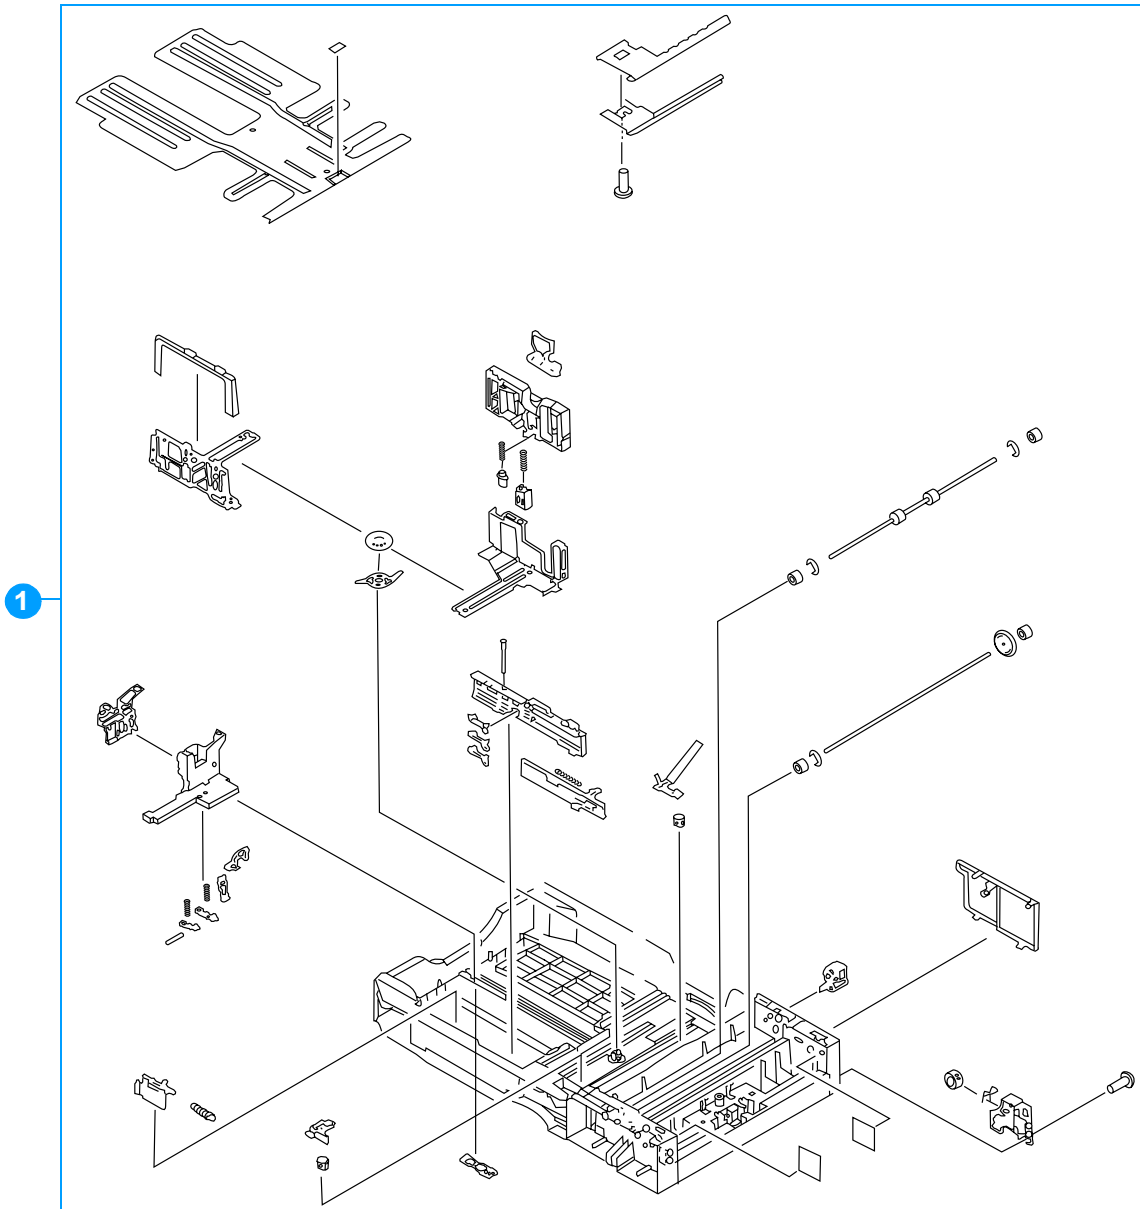
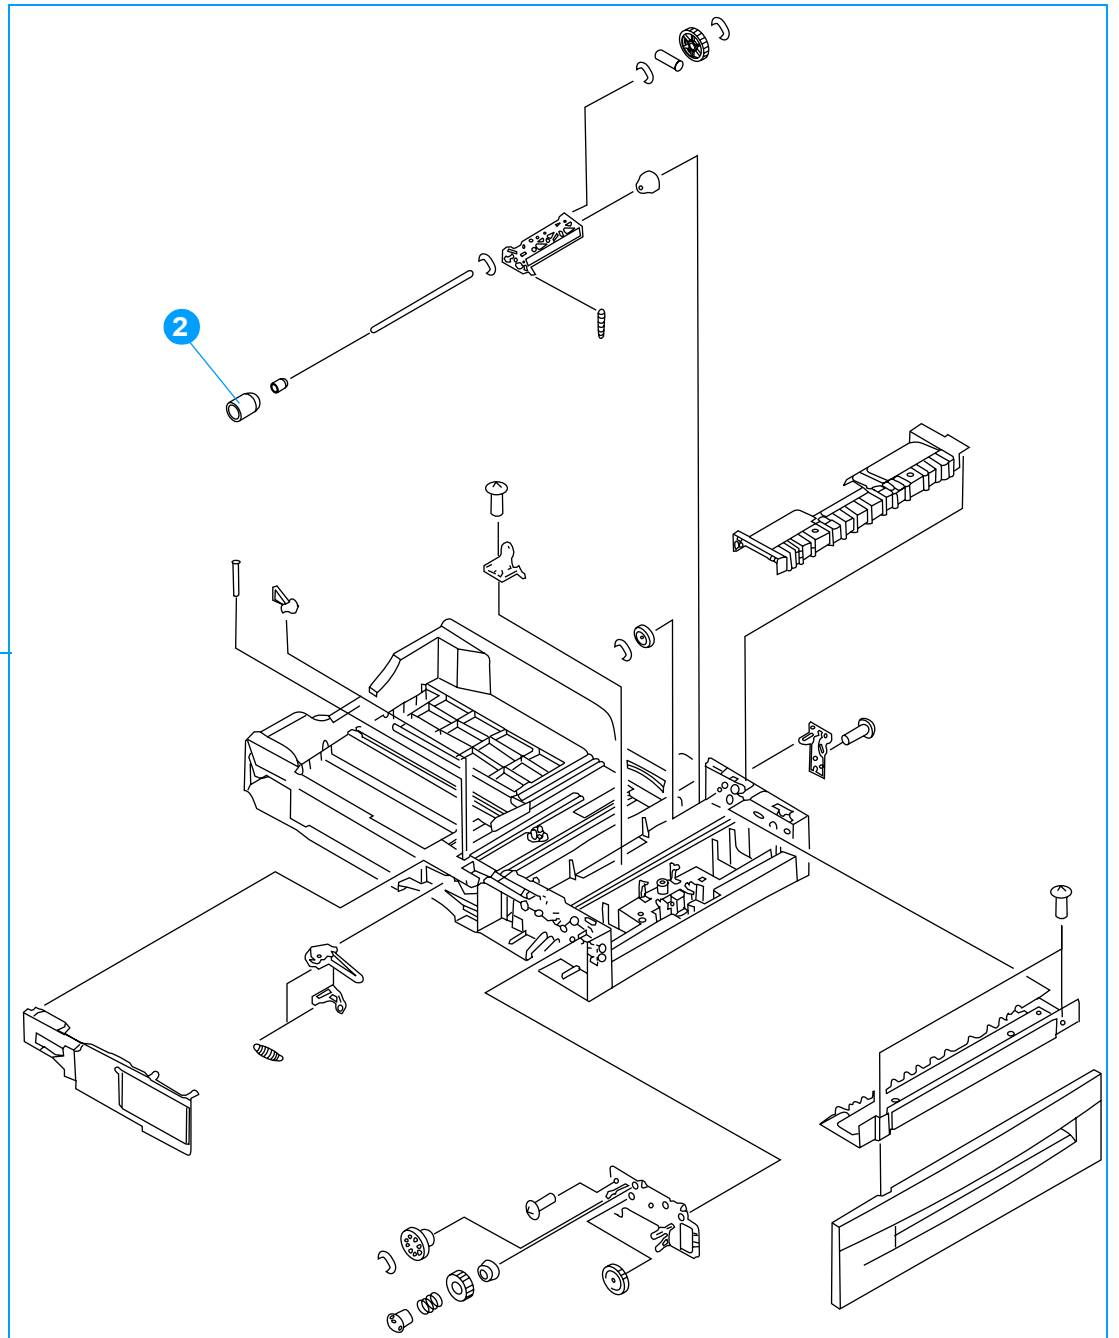

Figure 8-29 500-sheet paper feeder cassette (1 of 2)
Figure 8-30 500-sheet paper feeder cassette (2 of 2)
Table 8-25 lists parts shown in Figure 8-29 and Figure 8-30. If you order a replacement cassette (item 1), you will receive all parts shown in both figures.